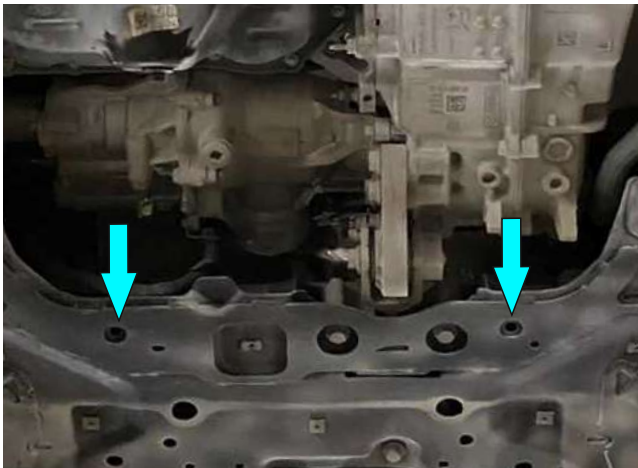

Fig. 1
1. Insert long M6 insert nuts with wire (item D) into frame and align with holes shown in fig. 1.